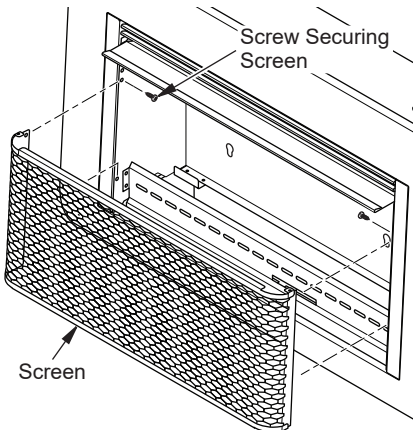

Figure 11 - Removing Screen
1. Remove 2 screws securing screen to the front panel. Lift screen up and out to remove from heater. See Figure 11.